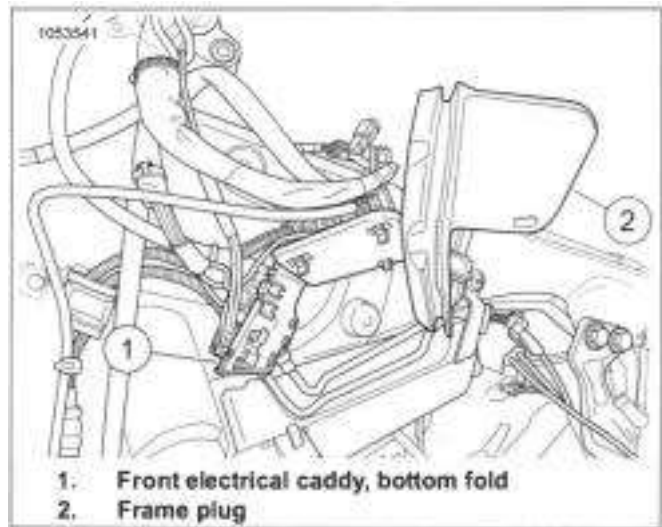

Figure 7-148. Front Electrical Caddy Frame Plug
- a. See Figure 7-146 and Figure 7-148. Unlock and open bottom fold (1) that contains frame plug.
2. Install connectors into center fold (2).
3. See Figure 7-148. Install frame plug (2) onto caddy. Close bottom fold (1).